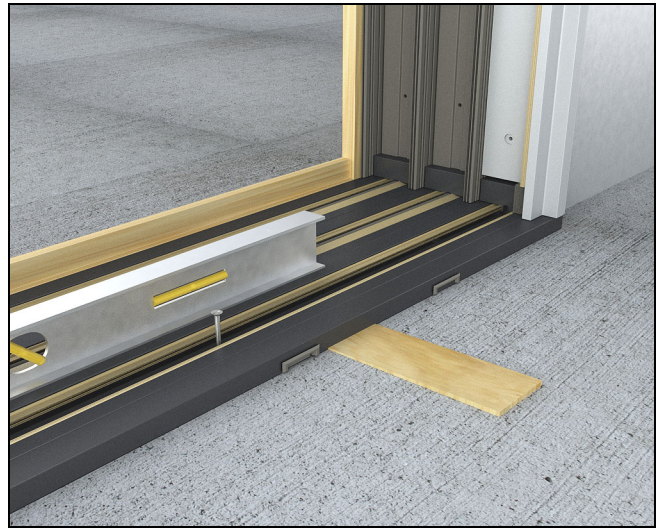

Figure 23
2. Place the frame into the opening and position. Begin to install anchor screws to secure the sill. See figure 23. After installing a few anchor screws, place a level on the sill and begin the sill leveling process, making sure that the sill is level. *NOTE: If sill has to be shimmed, the distance between shims should be 12" on center maximum.*